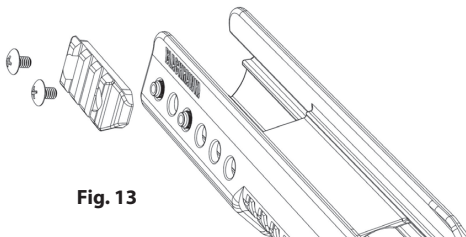

Fig. 13
1. Rail sections must be installed before the forend is installed on the weapon. Insert the two provided barrel nuts through the holes for desired placement and tighten the provided two screws with a Phillips screwdriver. Take extra precaution not to cross thread the screws. If the screws feel tight or rough while tightening, stop, unthread, and start over. Tighten firmly until it stops turning, but do not overtighten (*Fig 13*).